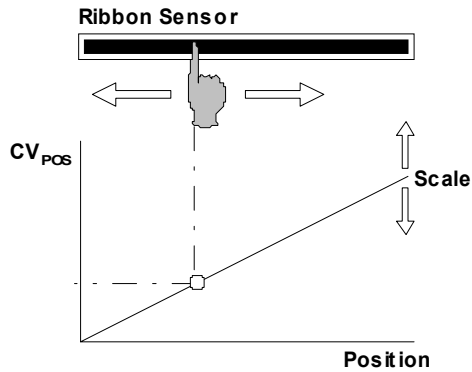

Fig. 1: Connection between position, Control Voltage CV_{POS} and Scale
The position sensor of the A-198 is in principle a linear potentiometer that is activated whenever a finger touches the sensor. Consequently the **relation** between the **position of the finger** and the **Control Voltage CV_{POS}** is **linear** too (see fig. 1).
The **Scale**, i.e. the connection between position difference and voltage difference, is adjusted with control ① (see fig. 1).